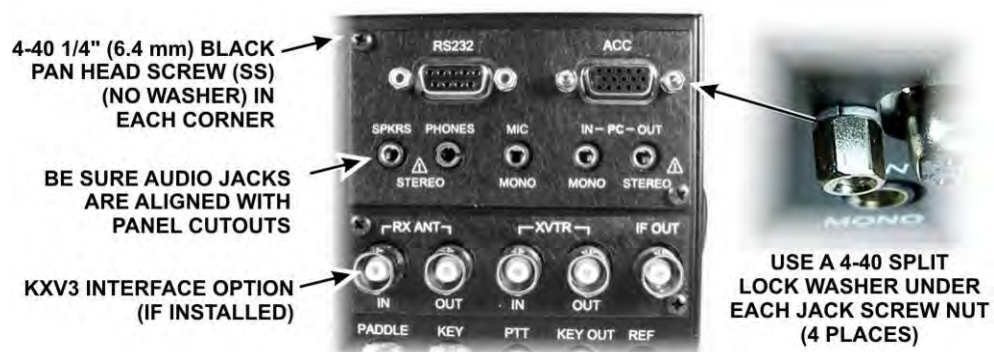

Figure 36. Mounting the KIO3 Connector Panel.
□ The DB9 multi-pin connector on the KIO3 Digital I/O daughter board may have jackscrew nuts installed on the connector. (Jackscrew nuts are shown in Figure 36). If so, remove them. They will be reinstalled shortly.
- Install the KIO3 rear panel as shown in Figure 36.